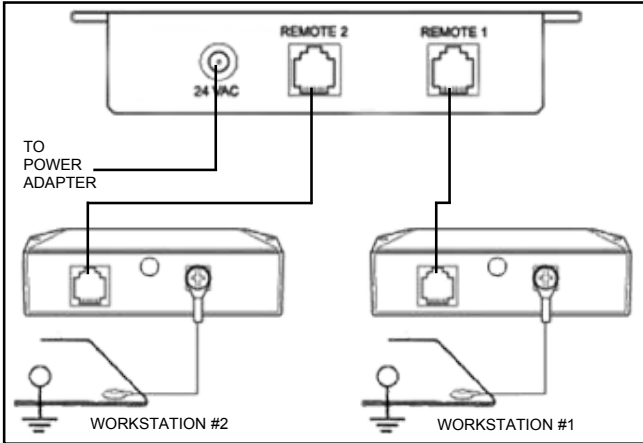

Figure 4. Wiring connection instructions for the 19232 / 19233 monitor control unit.
Figure 4 shows the monitor control unit as it is viewed from the rear, with the work surface wiring in place.
1. Use the rear phone jack connections and connect the Satellite Remote Units to the base unit with the phone cables. See Figure 4 for wiring connection instructions.
4. Confirm that worksurface surface resistance is $1 \times 10E7$ ohms or less. Connect the ring terminal end of the worksurface cord included with the unit to the screw on the back of the satellite. Snap the other end to the worksurface grounding point as shown in Figures 4 and 5.